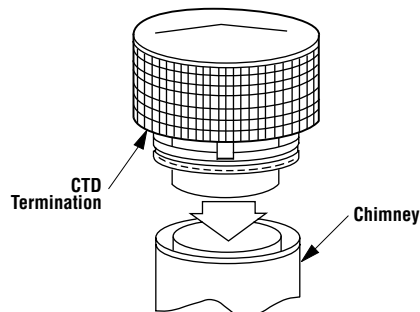

Figure 32
1. Hold the FTF13-CTD over top of last chimney section (Figure 32).